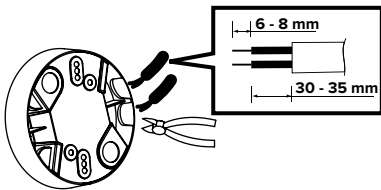

FIG. 12
2. In order to feed the wiring through the recesses on the side of the housing, these marked but still covered holes must be cleared with side cutting pliers. Then feed the wiring through the cleared holes and strip the insulation of the wiring 6-8 mm (FIG. 12).